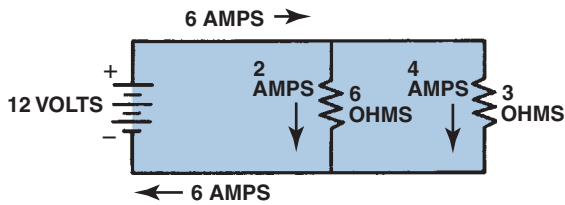

FIGURE 5-12 The current in a parallel circuit splits (divides) according to the resistance in each branch.
- Law 3** The sum of the individual currents in each leg will equal the total current. The amount of current flow through a parallel circuit may vary for each leg depending on the resistance of that leg. The current flowing through each leg results in the same voltage drop (from the power side to the ground side) as for every other leg of the circuit. ● SEE FIGURE 5-12.